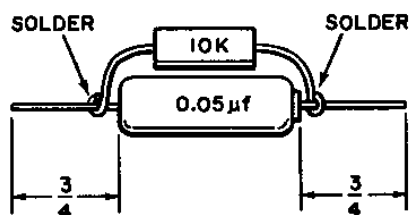

FIGURE 5
167. (✓) Select a 0.05 μf 400 volt molded capacitor C30 and a 10K ohm 2 watt resistor (brown, black, orange, silver) R25. Prepare these two components as shown in Figure 5. First, wrap the leads of the resistor around those of the capacitor. After cutting off surplus resistor lead, solder each wrap carefully. Trim each capacitor lead to $\frac{3}{4}$ " in length. Slip a $\frac{1}{2}$ " length of yellow sleeving over each lead and connect the resistor/capacitor combination between SW-3 lug 5 (S-1) and V5 lug 9 (NS). Be sure to connect the outside foil end (line) to V5 lug 9.